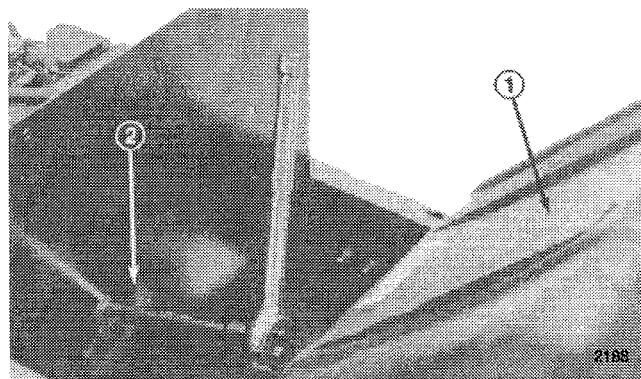

Figure 18
2. To gain access to the rear spark plug the gas tank must be removed (Fig. 18).
3. Push the wire(s) onto the spark plug(s) (Fig. 18).